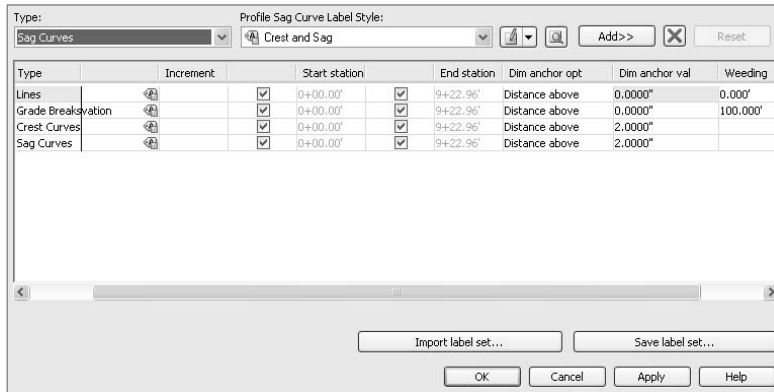

Figure 9.20
13. Within the Labels table, select the Dim Anchor Val in the Sag Curves row and change the value to 2. Your dialog should now look like Figure 9.20.